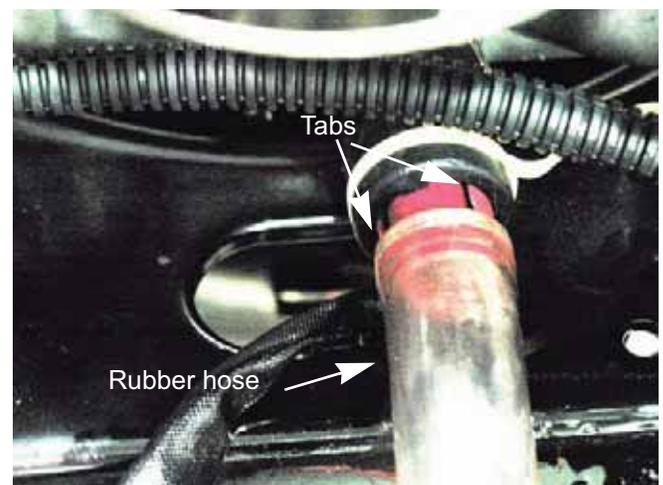

Figure 9.7
3. Slide a piece of 1/2" rubber hose onto the drain. See Figure 9.7.
4. Squeeze the two red tabs together and pull out on the drain. See Figure 9.7.